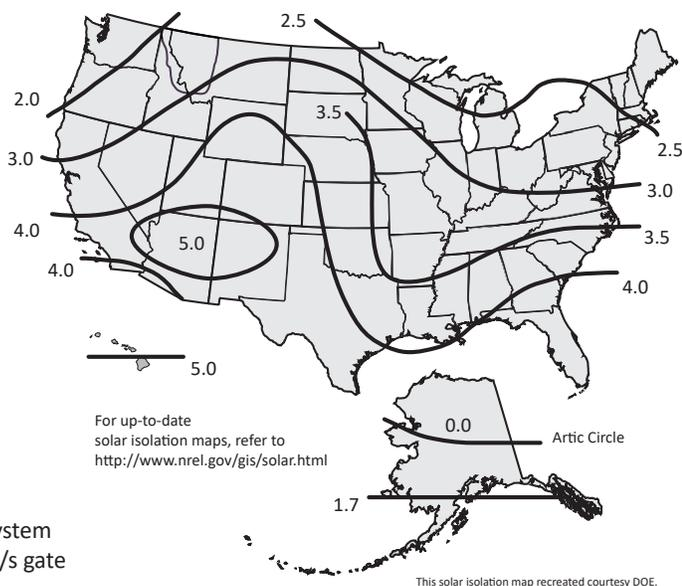

Figure 28. Solar Legend Map
- Sun hours at the site. "Sun hours" relate to the amount of energy delivered by the sun and absorbed by the solar panels. It is NOT the same as the number of daylight hours available at the site. See Figure 28 on page 45.
Use the solar maps to determine the number of solar hours per day that can be reasonably expected in a particular zone. The number of solar hours per day affects the amount of gate travel for a free-rolling gate powered by the SlideSmart solar operator. See Figure 28.